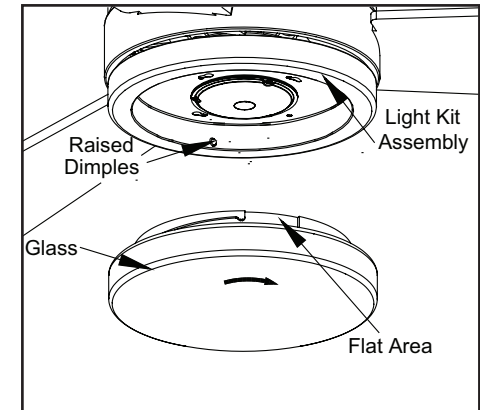

Figure 14
3. Place the glass bowl into the light kit fitter assembly, aligning the three flat areas on the top of the glass bowl with the three raised dimples in the light kit pan. Turn the glass bowl clockwise until it stops. (Figure 14)